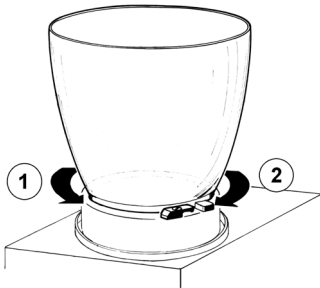

figure 2
counterclockwise (see figure 2).
- 2** Fit bowl gasket to the bowl around its seat. Place the bowl on the unit and then push it down all the way. Fix the bowl by rotating (2) it clockwise. Wet the gasket for ease of insertion (see figure 2).
- 3** Push (1) the dispensing button and insert (2) the pinch tube into its seat in the evaporator bottom. Lightly pull (3) the pinch tube end downwards till